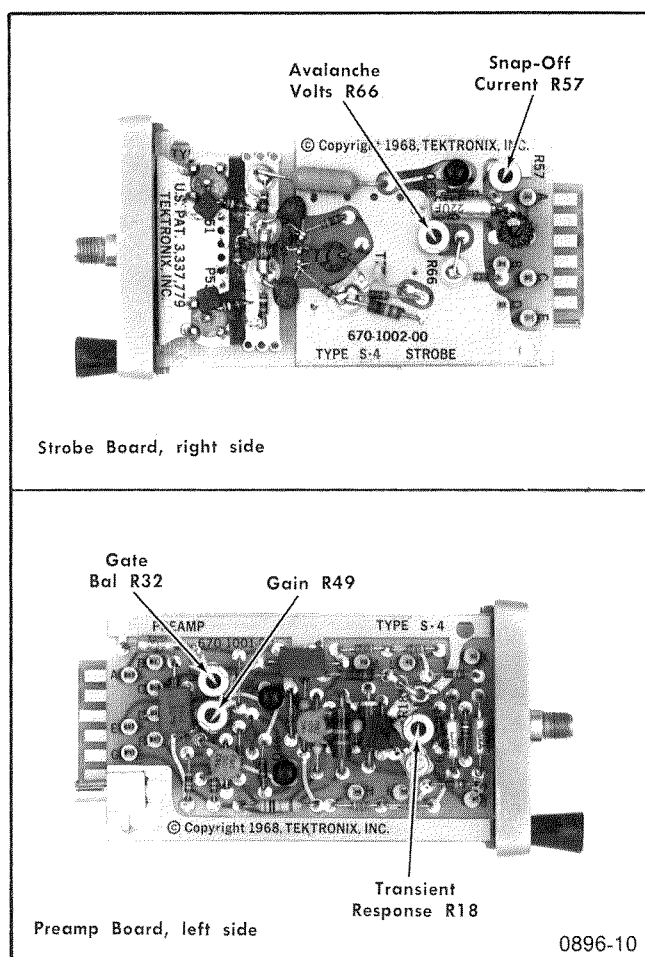

Fig. 4-3. Type S-4 internal control locations.
c. Set Avalanche Volts control R66 (see Fig. 4-3) and Snap-Off Current control R57 to midrange.